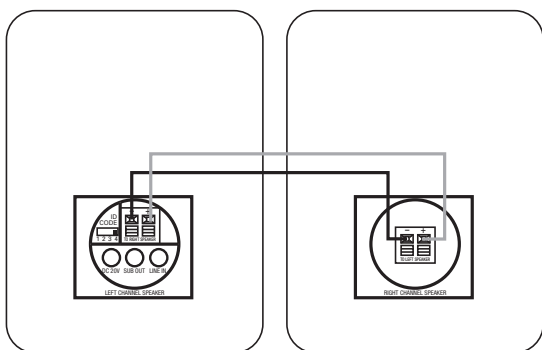

Figure 3.
See Figure 3. Please note that the speaker wire supplied features a polarity stripe to help distinguish its two conductors. Use this polarity stripe to ensure that you are connecting the positive (+) terminal on one speaker to the positive (+) terminal on the other, and the negative (–) to the negative (–). It does not matter whether you use the striped conductor for connecting the positive (+) terminals or the negative (–) terminals.
Step 3. Connect the speaker wire (included) to the push terminals on the active speaker ⑥ and the push terminals on the rear of the passive speaker ⑩, as shown in Figure 3. Please note that the speaker wire supplied features a polarity stripe to help distinguish its two conductors. Use this polarity stripe to ensure that you are connecting the positive (+) terminal on one speaker to the positive (+) terminal on the other, and the negative (–) to the negative (–). It does not matter whether you use the striped conductor for connecting the positive (+) terminals or the negative (–) terminals.
Step 4. Plug the transmitter module ⑫ and active speaker ⑦ into the wall outlet, using the correct power supply and power cord. Make sure the transmitter's antenna ⑪ is extended upwards.
Step 5. Make sure the ID code setting on the transmitter ⑬ is set to the same setting as that on the active speaker ⑤. See Page 8 of this manual for more information on ID codes. If necessary, configure your receiver to activate the preamp level outputs for the main/front channels (consult your source's owner's manual for specific instructions).
Step 3. Connect the speaker wire (included) to the push terminals on the active speaker 6 and the push terminals on the rear of the passive speaker 10, as shown in Figure 3. Please note that the speaker wire supplied features a polarity stripe to help distinguish its two conductors. Use this polarity stripe to ensure that you are connecting the positive (+) terminal on one speaker to the positive (+) terminal on the other, and the negative (–) to the negative (–). It does not matter whether you use the striped conductor for connecting the positive (+) terminals or the negative (–) terminals.